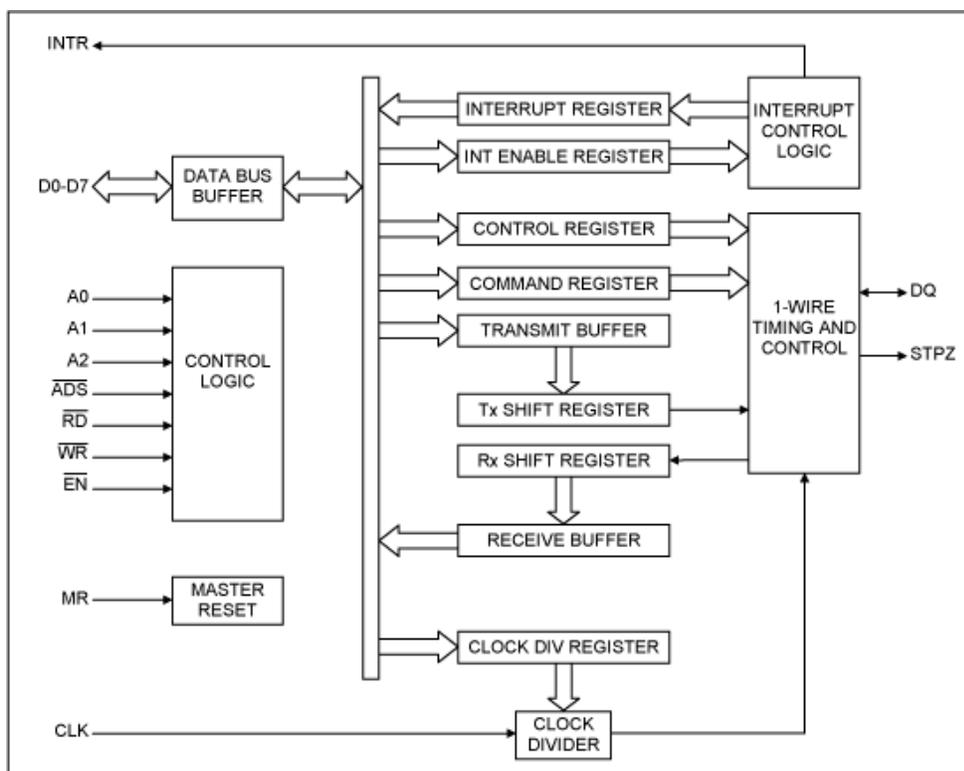
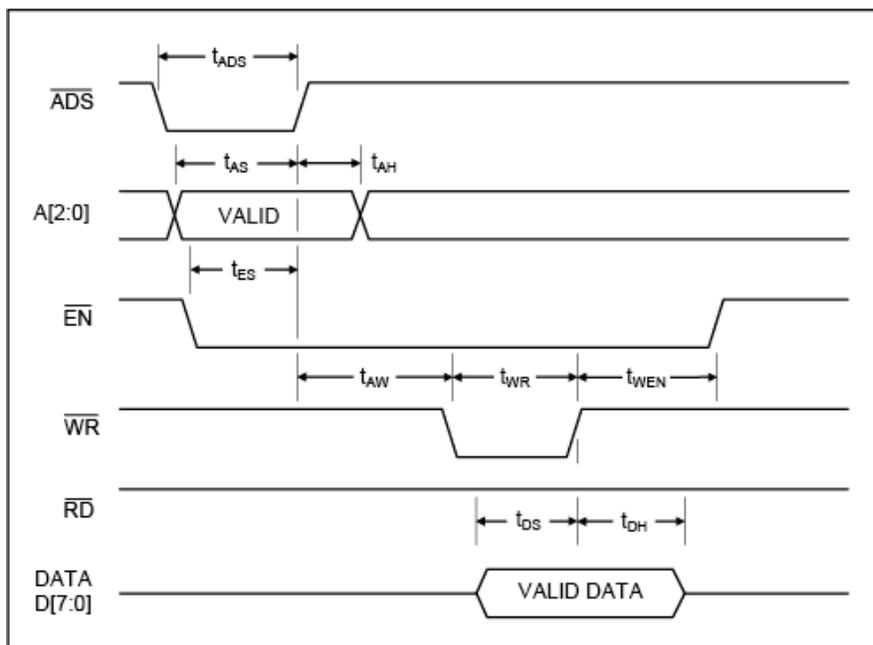

Figure 2. The DS1WM block diagram.
Figure 3. Host interface write cycle.
lines and the usual control signals (**Figure 2**). An internal divider chain converts any suitable system clock to a 1MHz signal, which in turn controls the 1-Wire timing. The DS1WM supports standard and overdrive 1-Wire communication in single-bit or byte mode, as well as modified timing for long line applications. The host interface and 1-Wire port signals are described in **Table 1**. **Figures 3 to 5** and **Table 2** specify the host interface waveforms and timing.
**Note:** The 1-Wire reset is initiated as a command written to address 00h. The host interface write cycle timing applies, as shown in Figure 3.